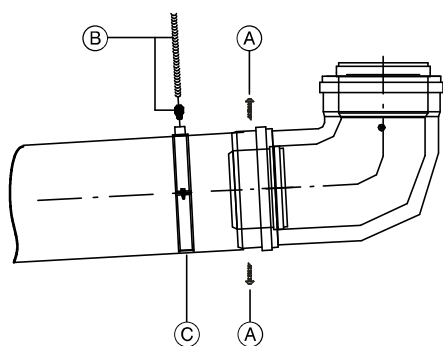
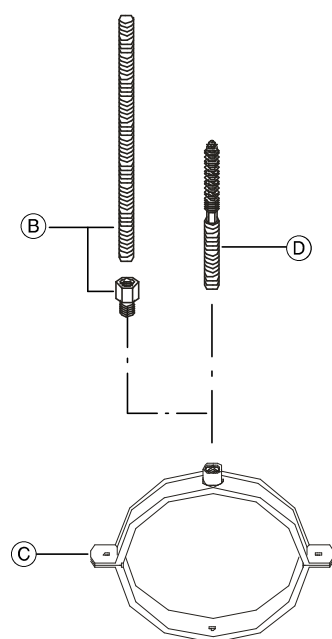

Fig. 25
Fig. 26
In addition to the support types listed above Viessmann offers mounting clips (see © Fig. 25, Fig. 26) which can be used in conjunction with the above support types to support the weight of the venting system. Please contact Viessmann to order.
Vertical vent systems with horizontal sections must have the joints in these sections secured with supplied sheet metal screws (A) (see Fig. 25) to prevent the system from sagging.
- See Fig. 26.
If a longer support system is required use brass adaptors M8 x 5/16" (supplied) with 5/16" all-threaded rods (B) (field supplied). See Fig. 26.